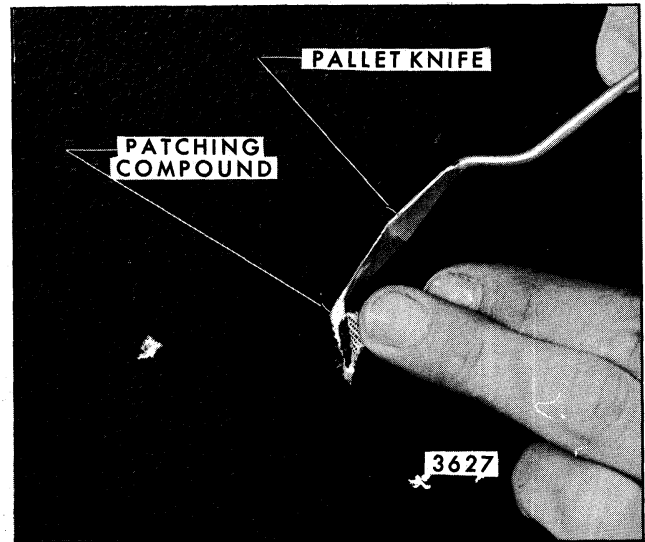

Fig. 8-64-Vinyl Repair Patching Compound Application
3. On damaged areas where no trimming was necessary, apply vinyl patching compound to edges of area as shown in Figure 8-64. Where trimming was required, apply compound to area